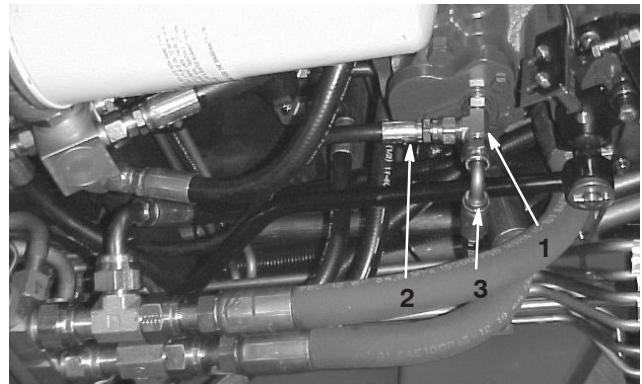

Figure 11
- 13.** Replace the 90 degree fitting in the charge port on the bottom of the Hydrostat with a tee fitting (Fig. 11). Replace the hose previously connected to 90 degree fitting with hose.